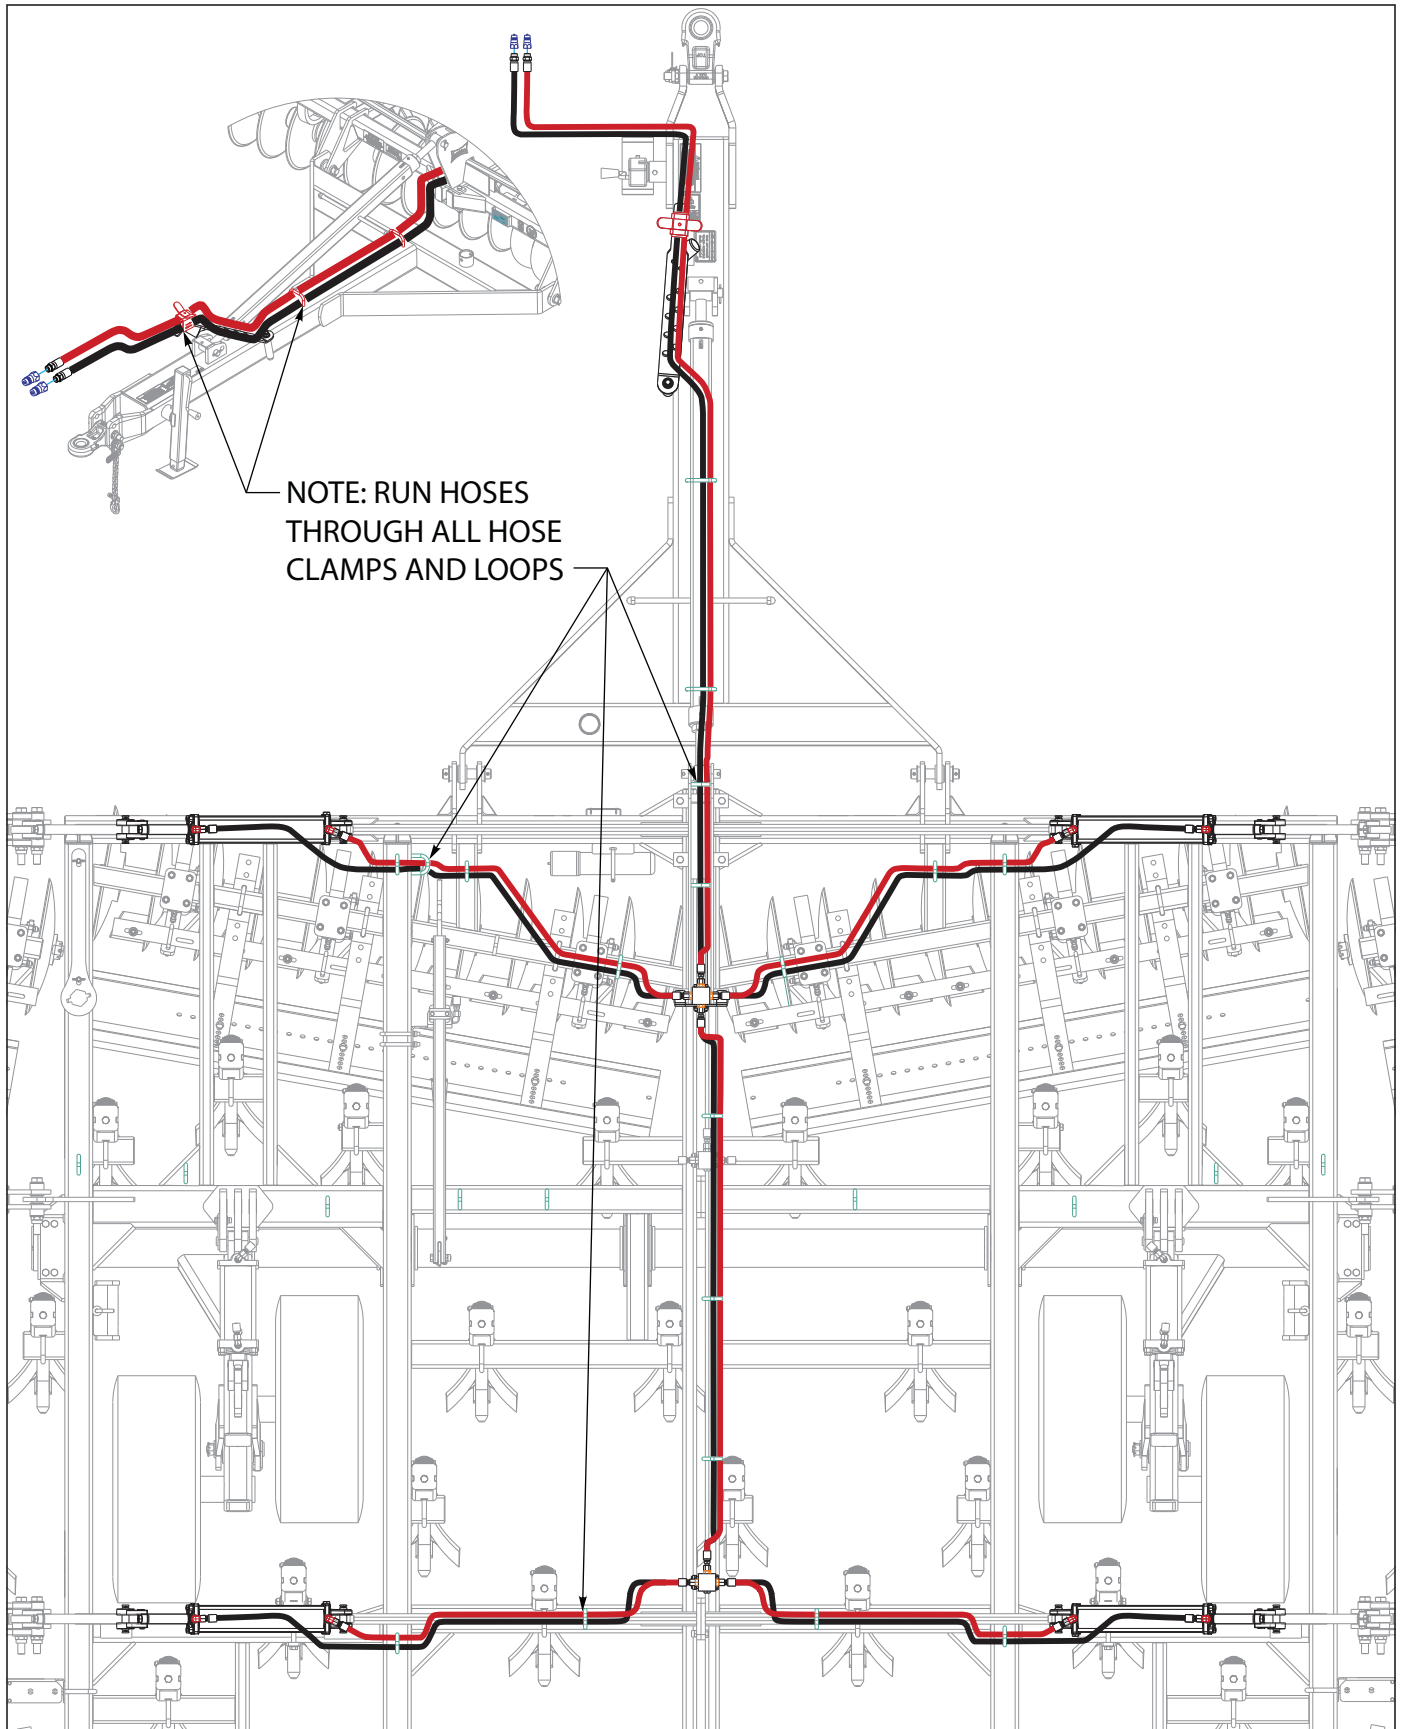

Figure 3-24: Hydraulic Fold Placement 877-30'
7. *See Figure 3-24 through 3-25* for proper hose routing.